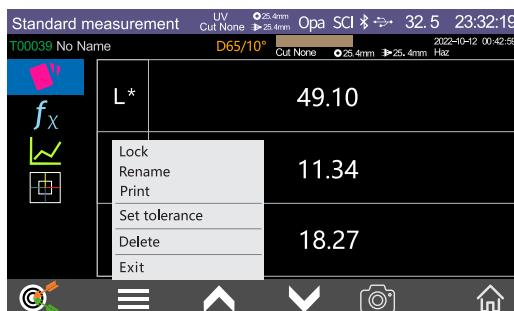

Figure 33 Printing Interface
- 6、Click to select "Print" in the pop-up menu (as shown in Figure 33), then start to print the sample, the content of the print will be different